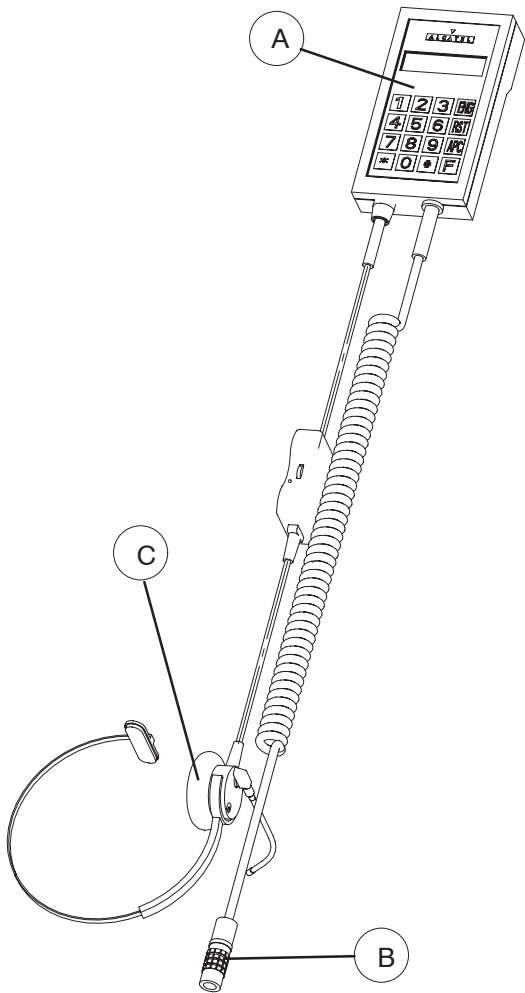

Fig. 43. Portable service kit (PSK) assembly view
- (B) LEMO connector, to connect, if necessary, the **PSK's connector LEMO (B)** (see Fig. 43. on page 117)
- banana plugs (C) and (D) : output is a 0 to +3V dc voltage proportional to the radio Rx field. During equipment line-up, through a multi-meter it is possible to easily point the antenna until the measured voltage is the maximum, corresponding to the maximum radio Rx field. Actual Rx field value can be measured through PSK (see para.2-6.2.3 on page 119) or by means of the Craft Terminal (see CT Operator's Handbook).